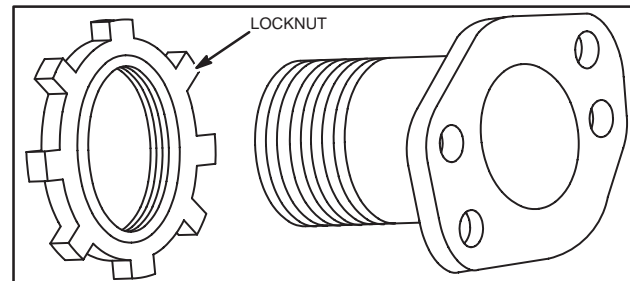

Fig. 20 – Lock Nut
1. Install lock nut on muffler adapter, Fig. 20.